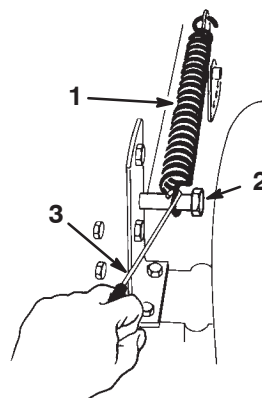

Figure 35
5. Remove the height-of-cut lift assist spring from the retaining bolt (Fig. 35). The spring is between the frame and the right rear wheel.
13. Move the height-of-cut lever into the "D" notch. Hook the lift assist spring onto the retaining bolt for storage (Fig. 35).